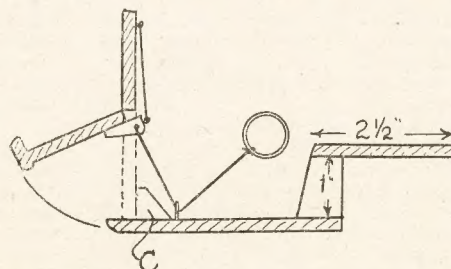

Fig. 3—Mechanism of leg and cord
On each side of this floor and at the rear part are the sides (B) which measure 12½ in. long by ½ in. by ½ in. in section. Glue these pieces on and add one or two fine nails. Next mark out and cut the back of the cab, or the fire shield, as it is properly termed. In Fig. 3 the dimensions for this are given to be cut from ½ in. wood. Round off the top corners neatly as shown. Glue this to the floor and close up against the sides (B) and put in a few fine brads or wire nails from beneath.
To the other end of the cord, tie a curtain ring for the finger to enter and pull the cord. Try the movement, and see that when the cord is pulled, the leg kicks out promptly, as seen in Fig. 3.